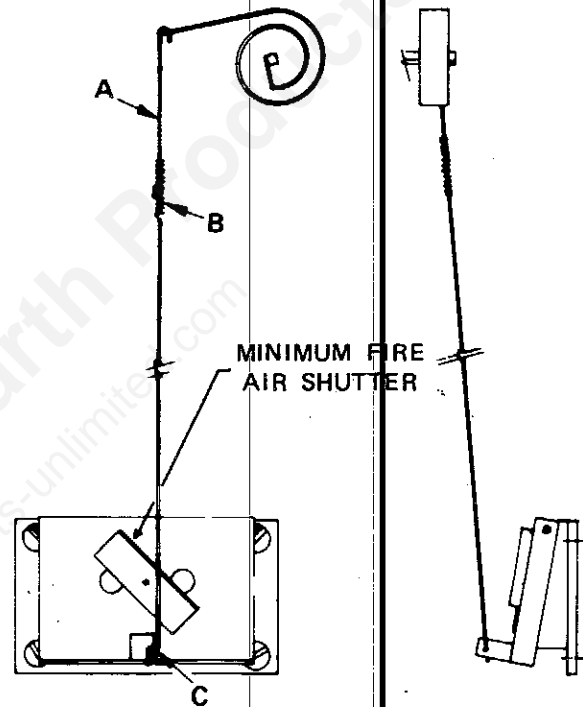

FIG. 16
A. To increase the amount of heat at a "HIGH" setting, adjust the wire linkage to increase the draft damper opening (Fig. 16).